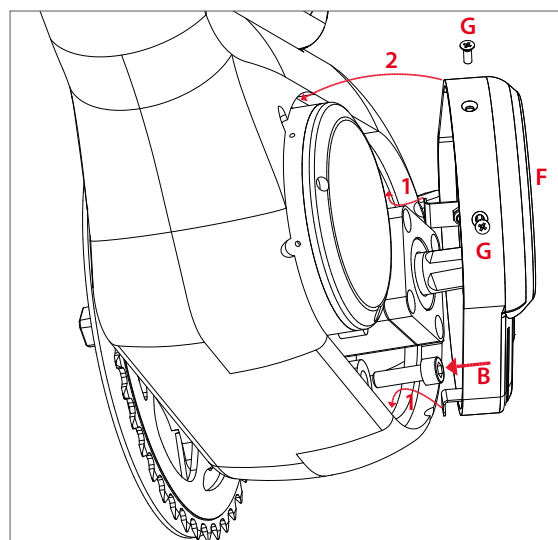

Figure 4.8 Mid motor assembly 4
8. Install the motor cover (Fig. 4.8):
10. Install the motor cover (Fig. 4.8):